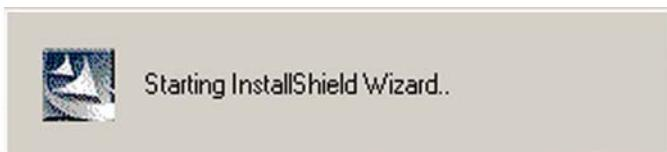

Figure 7-27: AC`97 Audio Driver Install Shield Wizard Starting
Step 4: Once you double click the **Setup** icon, the install shield wizard for the audio driver starts. See **Figure 7-27**.